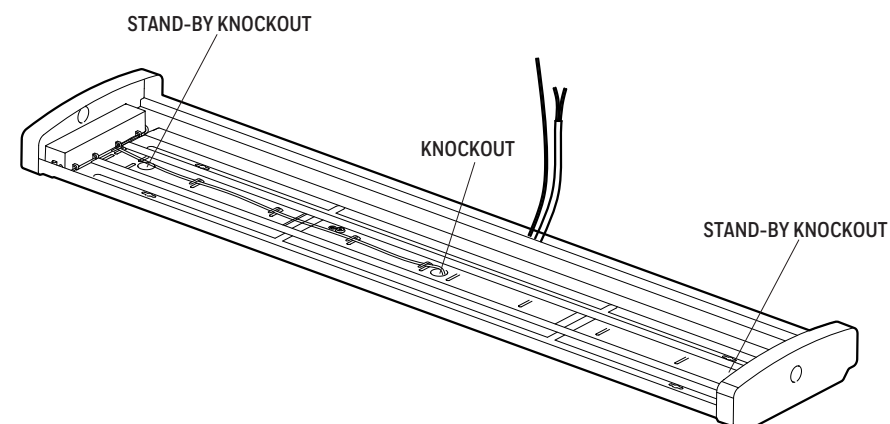

Figure 2
The lamp base (A) is manufactured with 3 knockout holes to provide flexibility during installation. If one of the Stand-By Knockout locations is used the wire may require additional trimming or extension. After selecting desired knockout location bend back the knockout tab (may require screwdriver to loosen), feed the connection wire through one of the knock out holes and slide connection wire beneath metal tabs. Bend tabs to hold wire in place. (Figure 2)
Mount the mounting bracket (BB) to the junction box and secure using the 2 small machine screws (AA). Connect the supply AC wires to the corresponding fixture wires (BLACK to BLACK, WHITE to WHITE and GROUND to GROUND) in the junction box and secure using wire nuts (CC). (Figure 2)